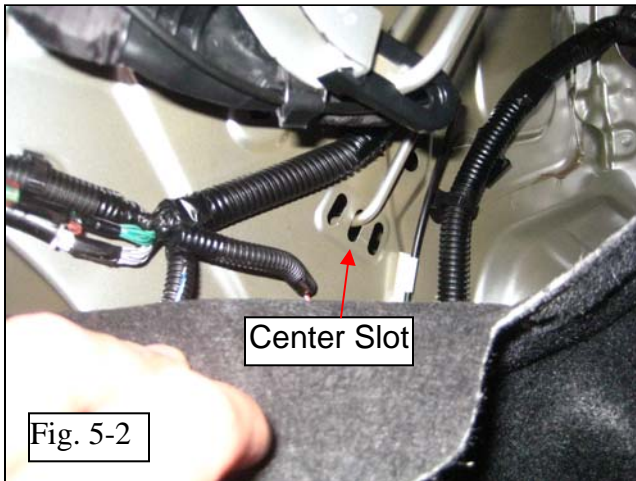

Fig. 5-2
- (b) Move the torque rod from the center slot to the most rearward slot (Figs. 5-2 & 5-3).